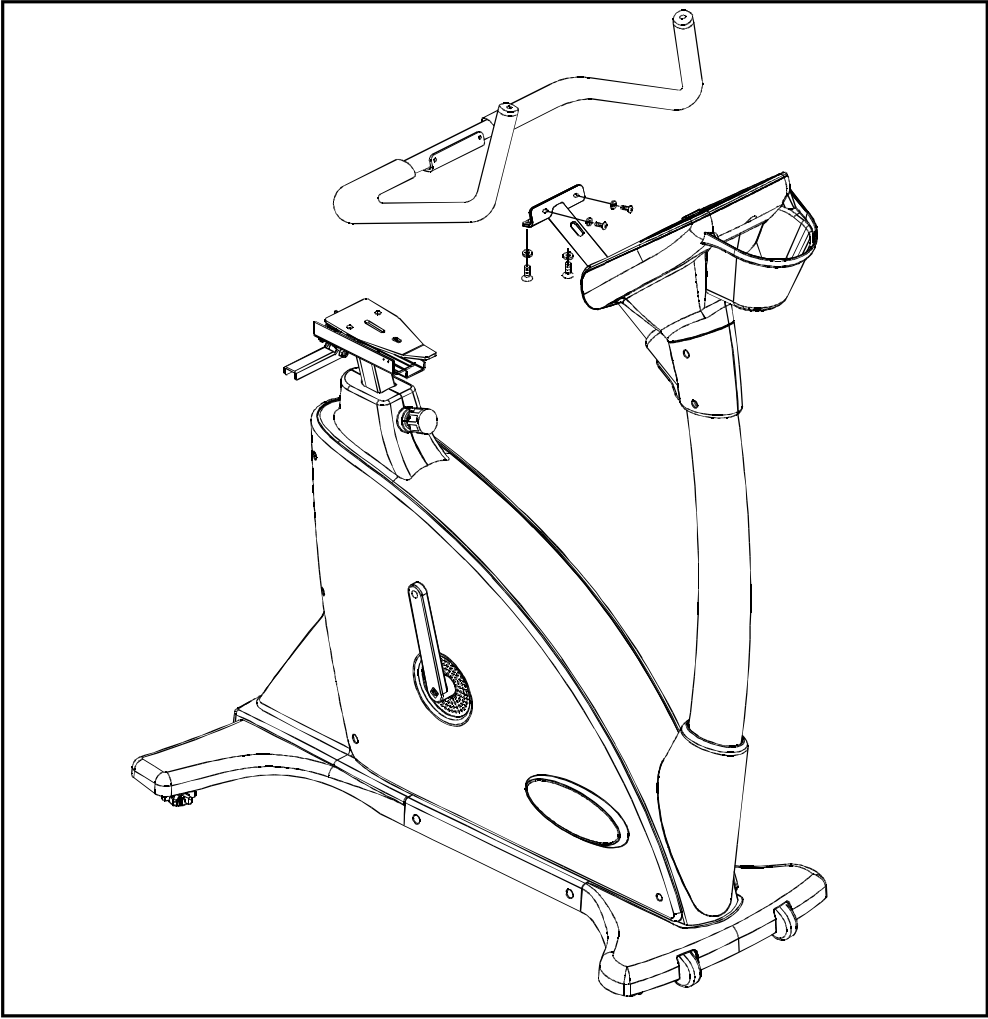

Fig.7
STEP 3. Hold the handlebars in place on the frame while securing the handlebar bolts. Then secure the upper and lower handlebar mount covers. See Figures 7 and 8.